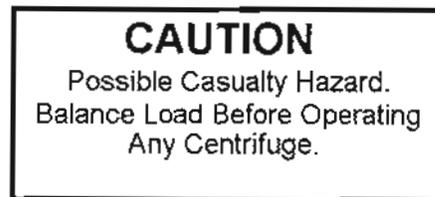

Figure 1-8. Balanced load caution decal.
(5) A balanced load caution decal (located on the guard of the centrifuge) providing operational information is depicted in figure 1-8.